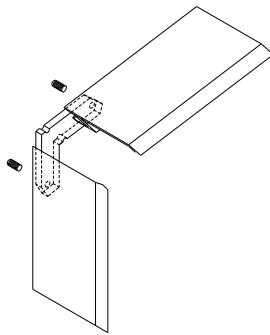

Figure 2.4
2. Assemble the faceplate trim, attaching the mitered corners with the corner brackets. (see Figure 2.4)